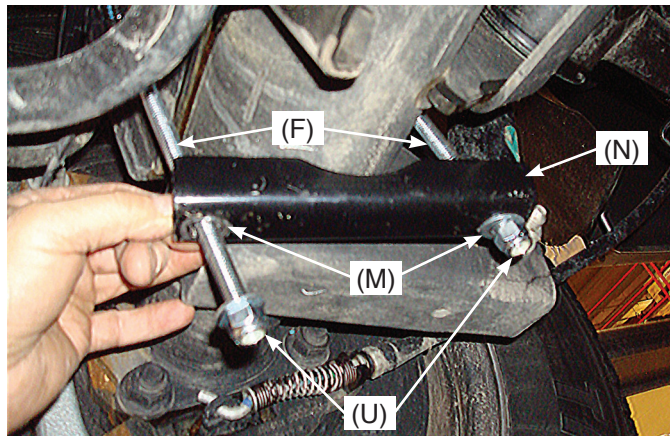

fig. 18
3. Set the clamp bar (N) over the two long carriage bolts (F) under the axle and cap with two 3/8" flat washers (M) and 3/8" nyloc nut (U) (Fig. 18).